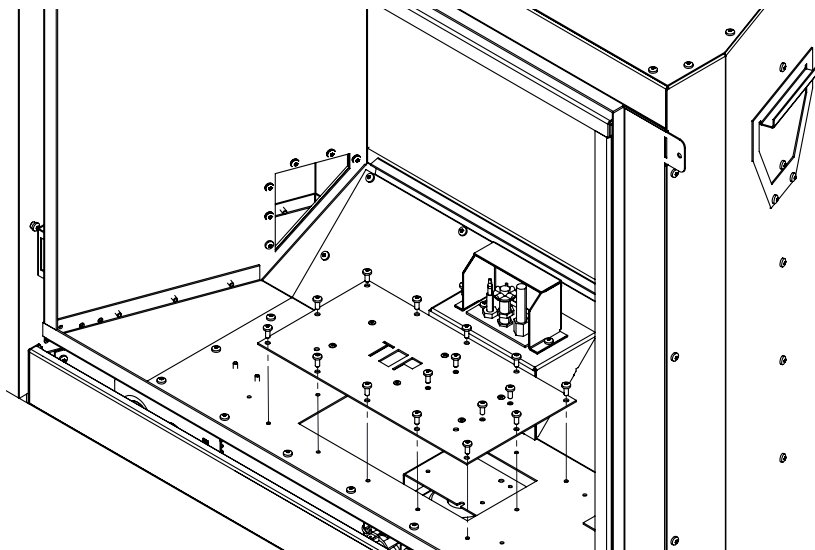

Figure 21. Removing Access Door
Step 2: Remove the Upper Air Diverter by removing (2) T-20 bolts. Remove the Lower Air Diverter.
Step 3: Remove the right and left burner stands by removing (4) T-20 bolts.
Step 4: Remove the (16) T-20 bolts retaining the access door as shown in Figure 21.